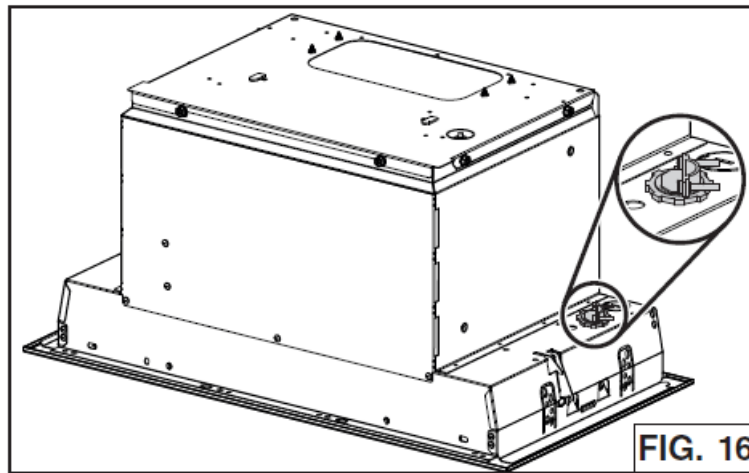

FIG. 16
4. Punch out one of the two knock-out holes. Install an appropriate 7/8" diameter strain relief (not included, grey part in FIG. 16).